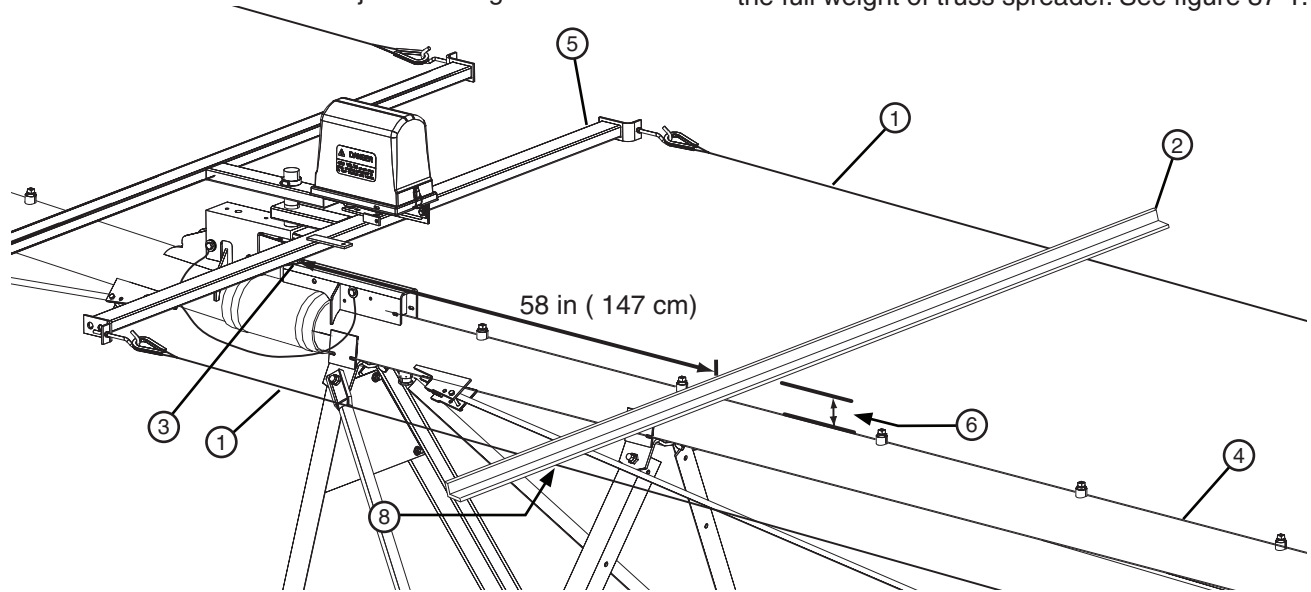

Figure 87-1 1. Alignment Cable 2. Truss Spreader 3. Ball and Socket Joint 4. Span Pipe 5. T Bar 6. Original Measurement 7. Pivot 8. Do Not Deflect
4. Set alignment cable tension. Use a truss spreader part number 9360055 to check the alignment cable tension. The truss spreader is 115 in (292 cm) long and weighs 23.4 lb (10.6 kg). See figure 87-1.
5. Position the truss spreader across the alignment cables at approximately 58 in (147 cm) from the drive unit ball and socket joint. See figure 87-1.
6. Hold and support the truss spreader across the safety cables and measure and record the distance from the truss spreader to the span pipe without the full weight of the truss spreader. This is the ORIGINAL measurement. See figure 87-1.
7. Lower the truss spreader onto the alignment cables and allow the alignment cables to support the full weight of truss spreader. See figure 87-1.